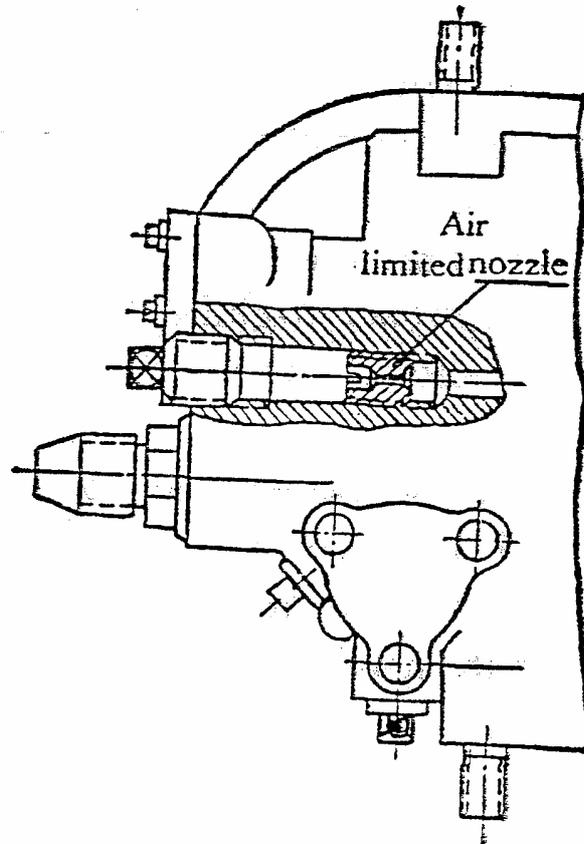

Fig. 12 Replacement of air limited nozzle
a. Regulate mixture ratio at normal and take-off ratings by replacing the air limited nozzle with various bore (fig. 12).